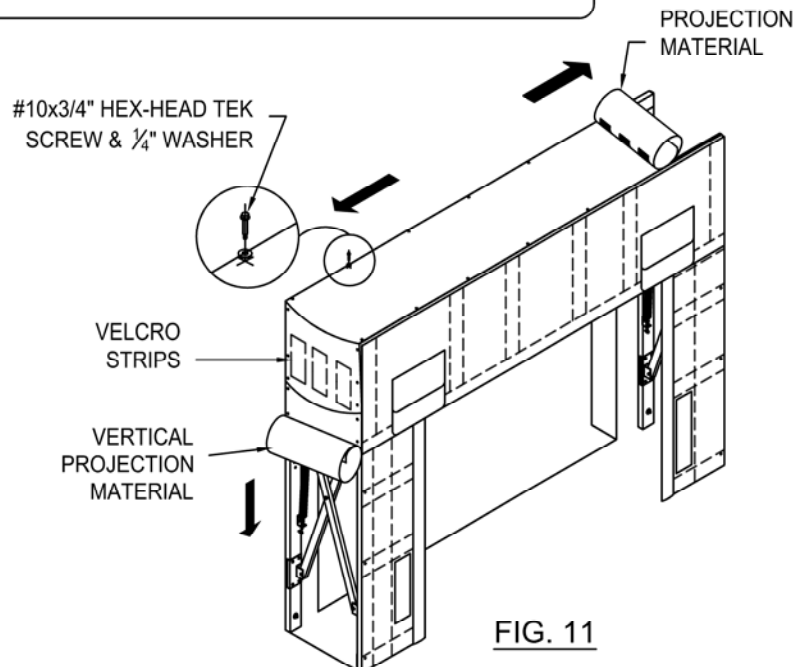

FIG. 11
- * Connect Velcro strips of top projection material to velcro strips on vertical projection material (fig.11).
- * Projection material overlaps vertical projection material (fig.11).